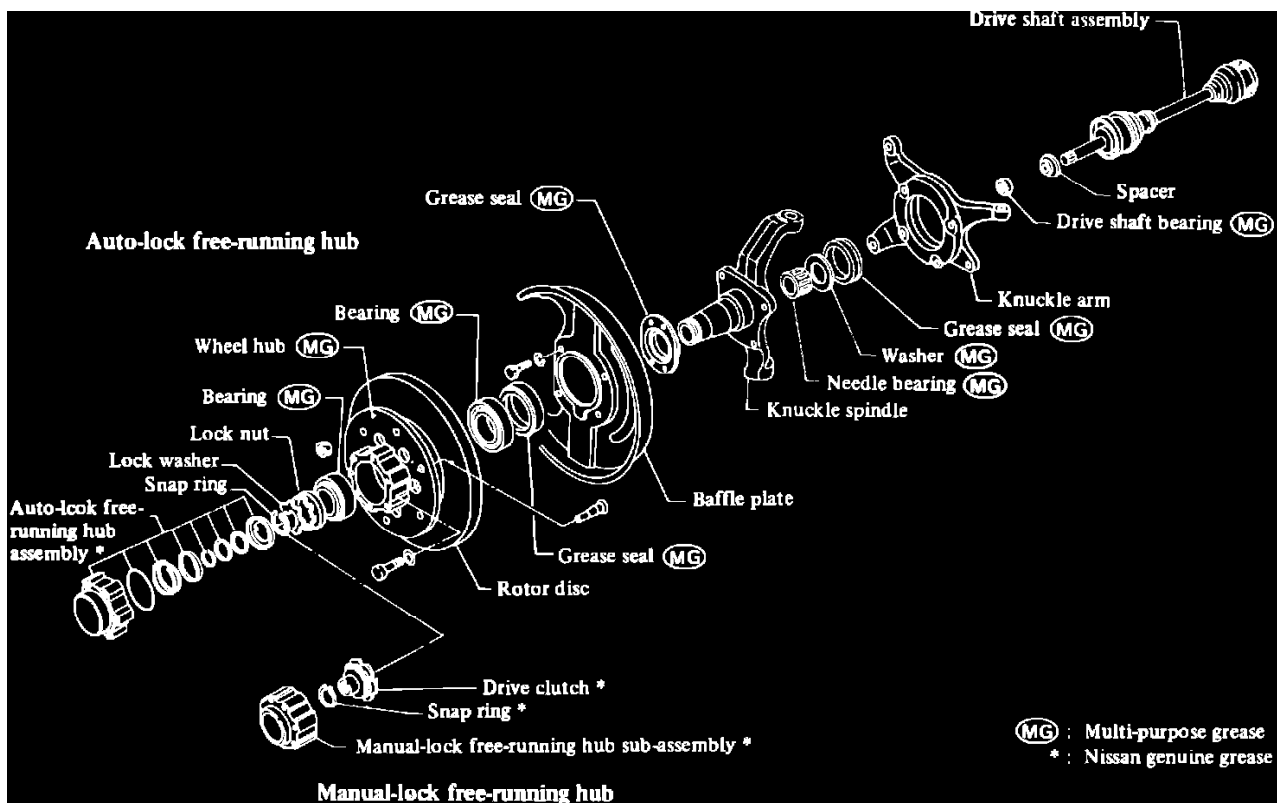

Fig. 2 Front axle exploded view. 1985-86 4WD Pickup
3. Remove locking hub attaching bolts and the hub, Fig. 2.
4. On models with manual hub, remove snap ring and drive clutch, then the second snap ring, lock washer and wheel bearing locknut, Fig. 2.